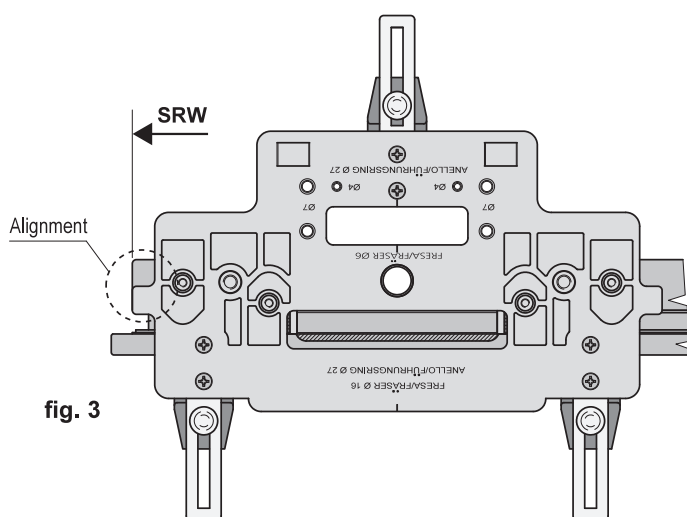
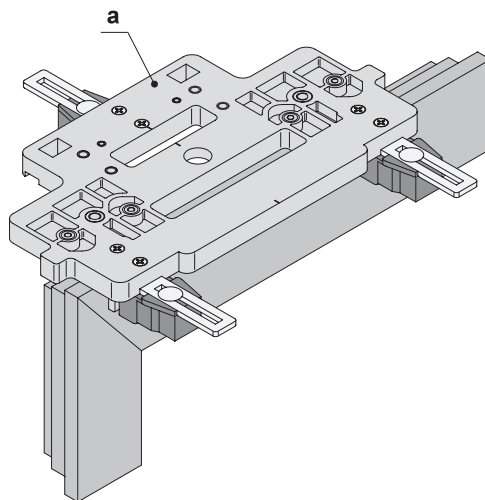

fig. 3
fig. 4
- 2) Position the jig, art. M02030.00.01 (a), on the upper rail of the sliding sash, aligning it with the rebate edge of the hardware groove (fig. 3). Adjust the support feet (b) so that the jig forms a 90° angle with the sash (fig. 4).
4) Adapt the linking elements to the dimensions of the sash (fig. 3), trimming the more knurled section. Before proceeding with this operation, in case it should be necessary to modify the height of the handle, unblock the hardware, align the lower section of the forend and of the moving rod, then cut as needed. Check the table on the right.